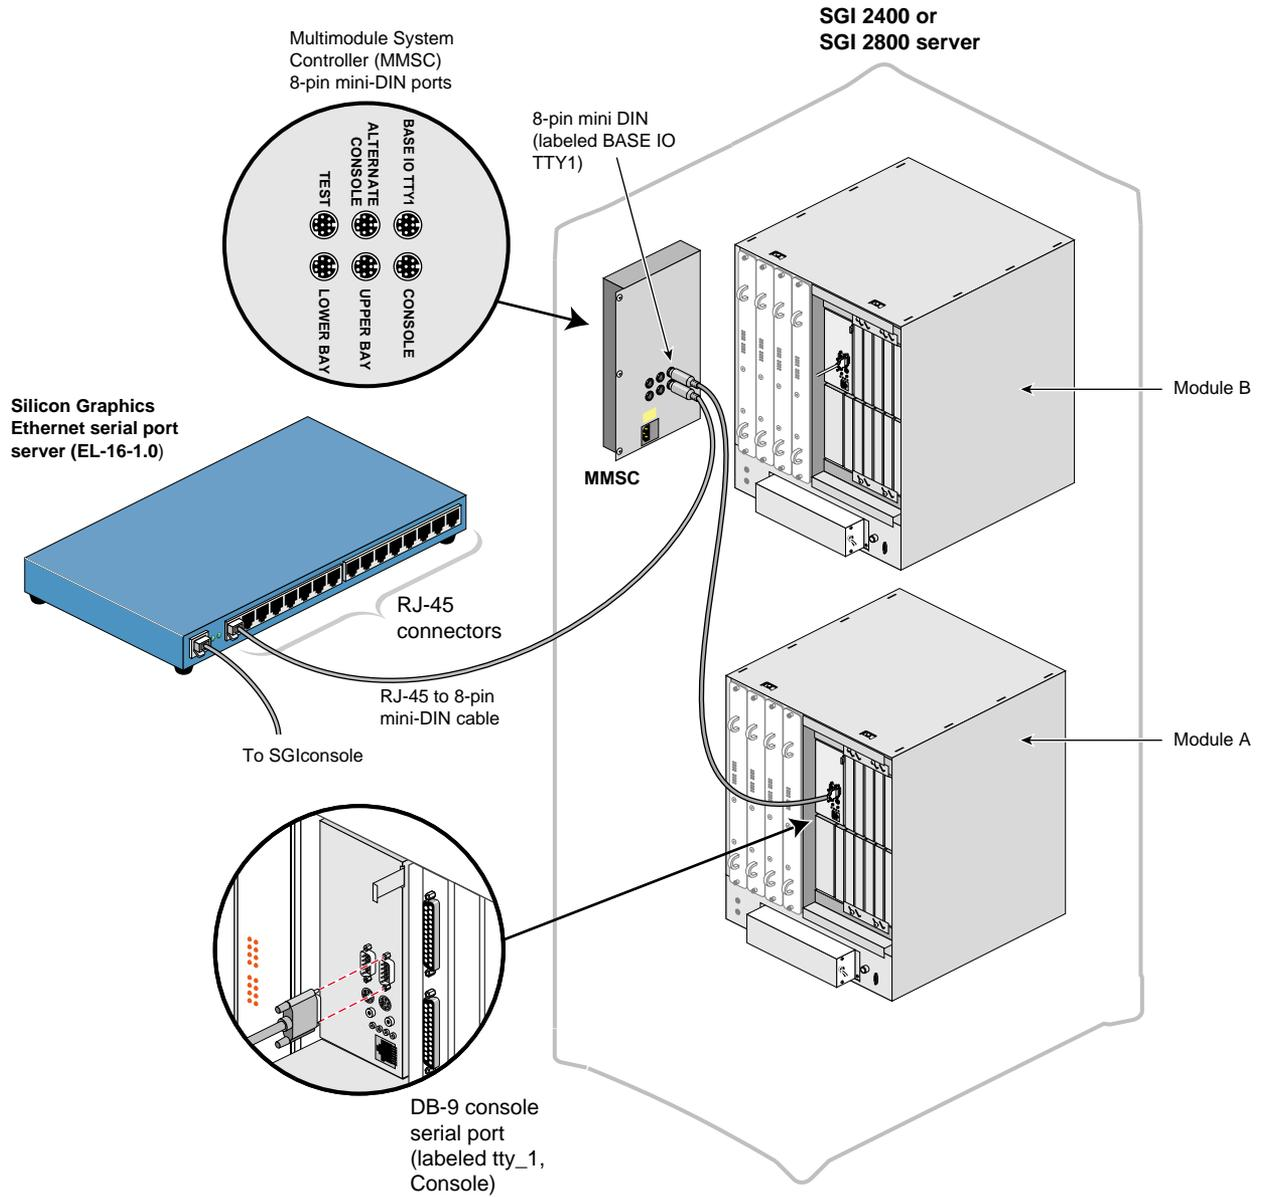

Figure 2-25 Connecting the MMSC Base I/O TTY1 to the Module A tty_1, Console Connector
6. Connect the 8-pin mini-DIN connector end of one of the 8-pin mini-DIN to DB-9 cables to the 8-pin connector on the MMSC labeled "BASE IO TTY1." Connect the DB-9 connector end of this same cable to the serial port connector labeled "tty_1, Console" of the SGI 2400 or SGI 2800 server module A located in the lower bay of the rack. See Figure 2-25.